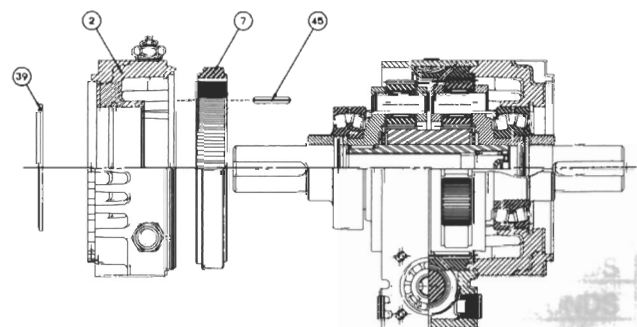

Figure 3
5. Remove screws (50, 51, 52), retaining end bell (2) on the "X" shaft side.
6. Remove bevel snap ring (39). See Figure 3.
7. Remove end bell (2). Use a rubber or soft material hammer to free end bell. See Figure 3.
8. The ring gear (7) can be removed at this point if replacement is required. Press ring gear (7) off end bell (2).
NOTE: In some units the ring gear is retained by screws (45). In other units the ring gear is retained by roll pins (45). If the ring gear is retained by screws, the screws must be removed before the ring gear can be pressed free. See Figure 3.